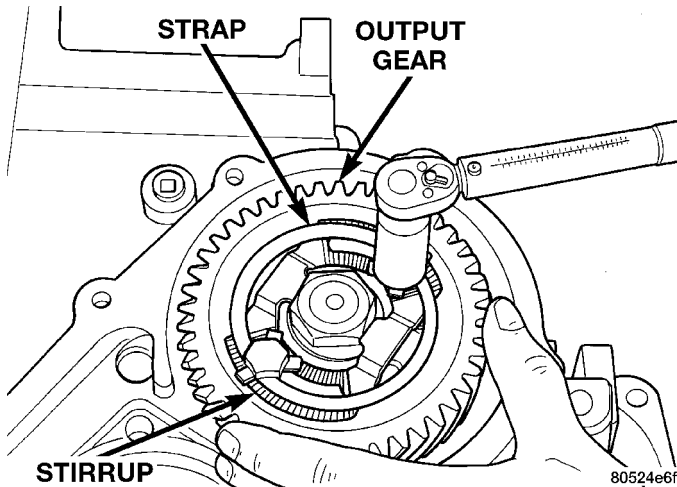

Fig. 180 Tighten Strap Retaining Nuts
(5) Tighten retaining bolts to 23 N·m (200 in. lbs.) (Fig. 180).